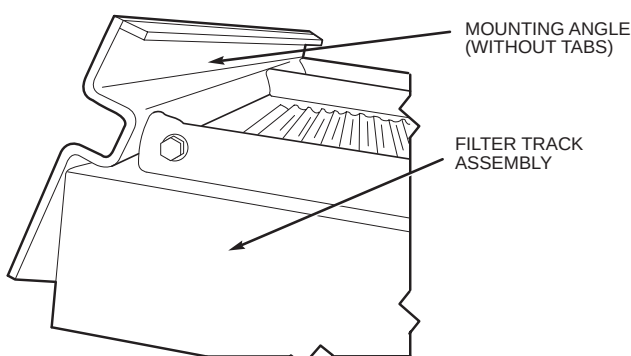

Fig. 32 — Mounting Angle (Without Tabs) Attached to Filter Track Assembly
13. Attach mounting angle (without tabs) to the assembled end of the filter track. See Fig. 32.